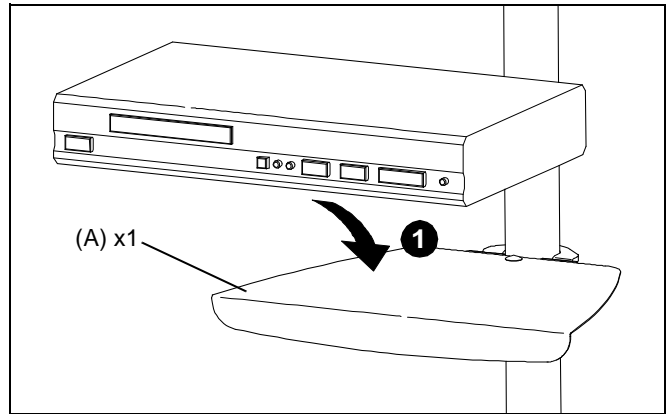

Figure 4
1. Place equipment on shelf (A). (See Figure 4)